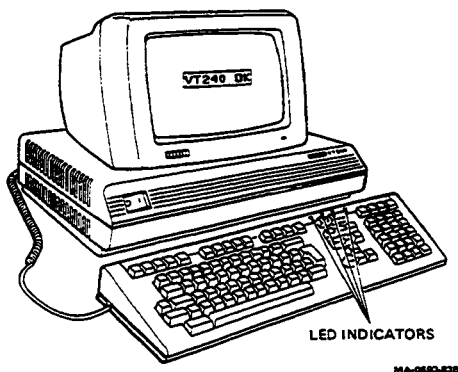

Figure 1-1 Indication of Successful Self-Test
1. The keyboard LED indicators (Figure 1-1) are off.
3. A VT240 OK message enclosed by a rectangle appears on the screen (Figure 1-1). This message disappears from the screen when (1) the terminal receives any character except XON, (2) you press the set-up key, or (3) you let 30 minutes elapse.